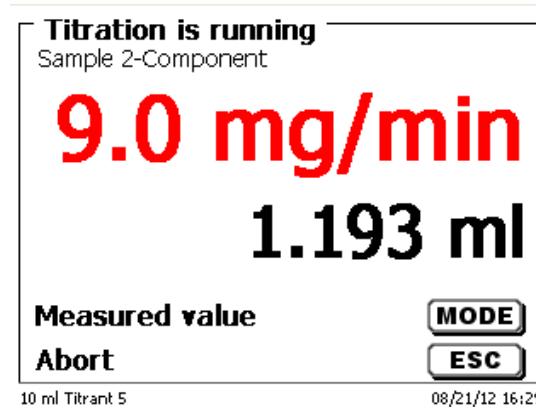

Fig. 69
- the use in ml with the drift in $\mu\text{g}/\text{min}$ (Fig. 69),